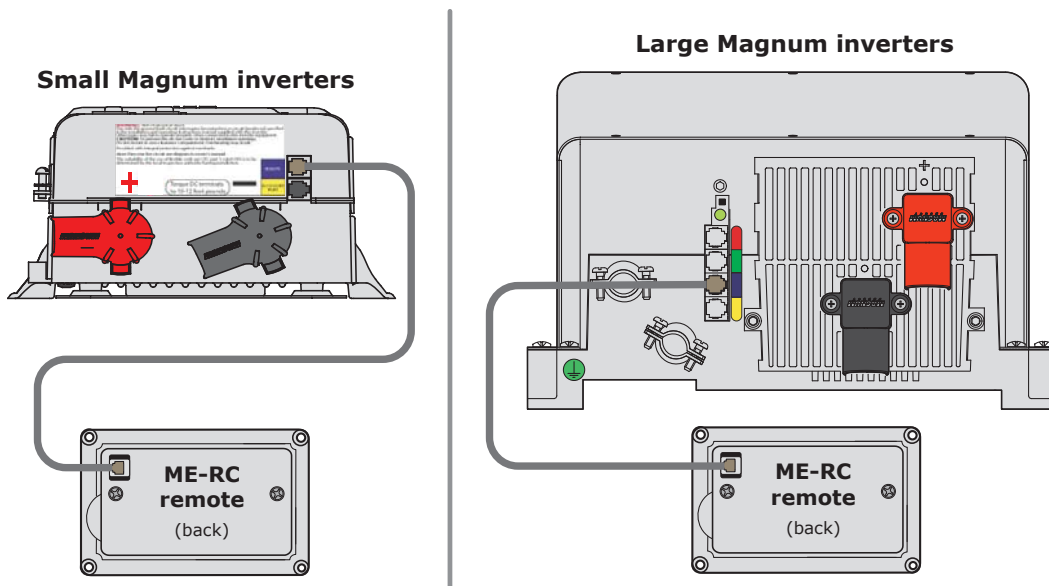

Figure 2-2, Remote Control Connections
One end of the remote cable plugs into the back side of the ME-RC, and the other plugs into the REMOTE (blue) port on the Magnum inverter/charger (see Figure 2-2).
3. Route one end of the cable through the wall opening to the inverter/charger, and then plug it into the RJ11 REMOTE port (blue label) on the inverter/charger—inverter has DC power, but is OFF. See Figure 2-2.